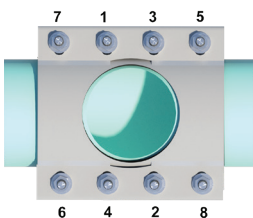
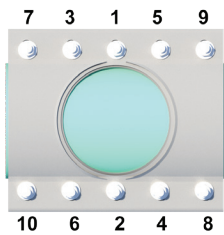

Figure 5
Figure 6
**8)** Using a torque wrench, tighten nuts in proper pattern. Tightening patterns are shown in Figure 5 and Figure 6. Repeat tightening pattern in no more than 25 ft. lb. increments until recommended torque is reached. **NOTE:** 8" fitting has 10 total bolts (see Figure 6 on the next page for 8" bolt torque sequence).